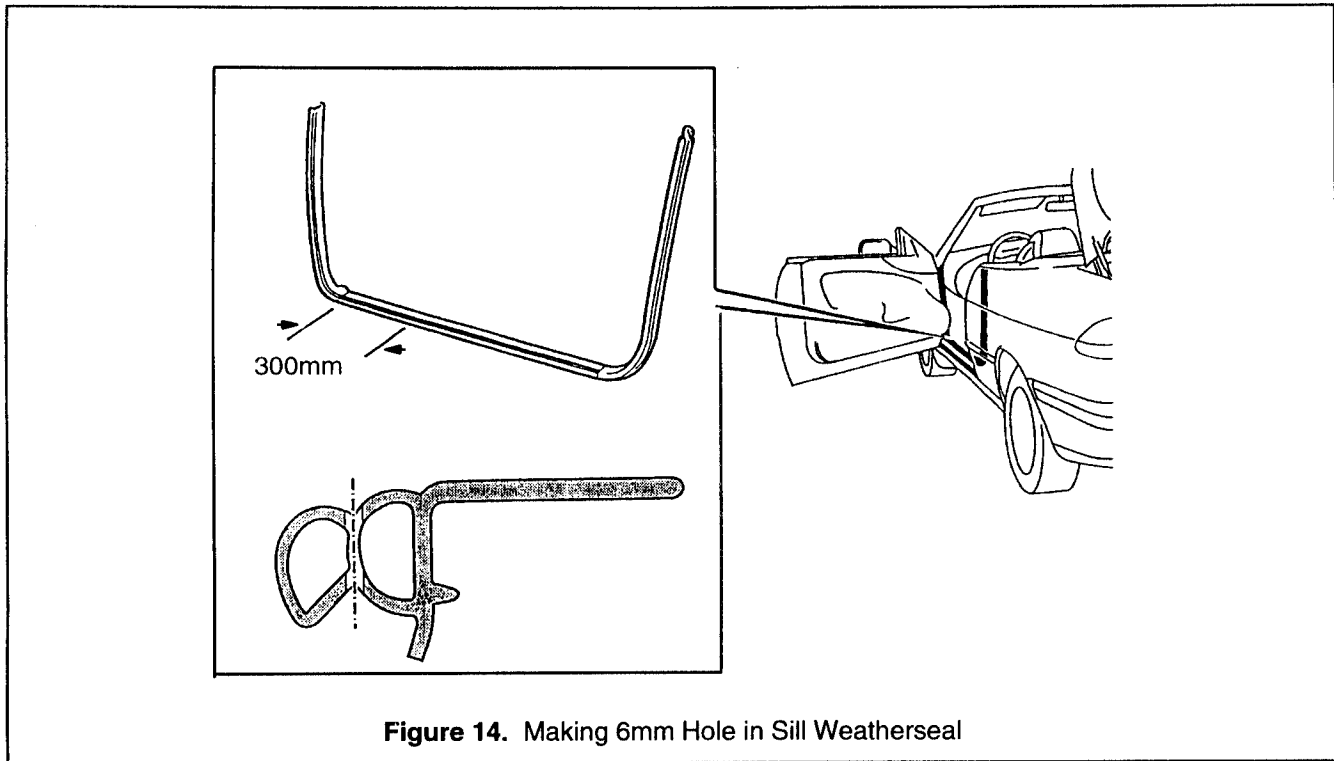

Figure 14. Making 6mm Hole in Sill Weatherseal
5. Use the punch pliers to make a 1/4" (6mm) hole in the sill weatherseal 12" (300mm) from the mold joint on the seal. See Figure 14.